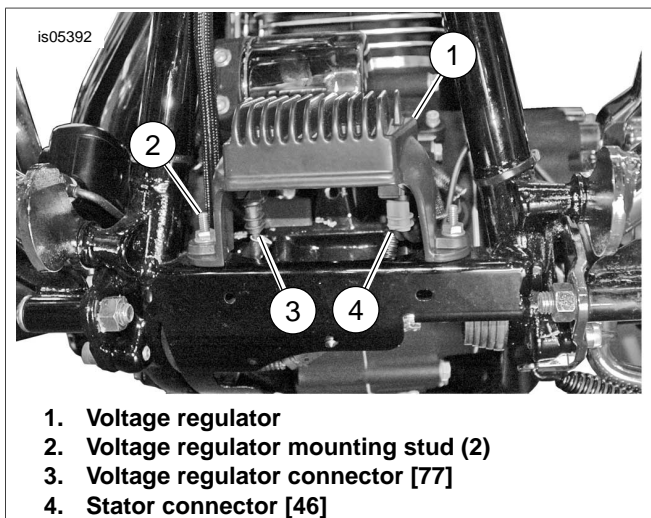
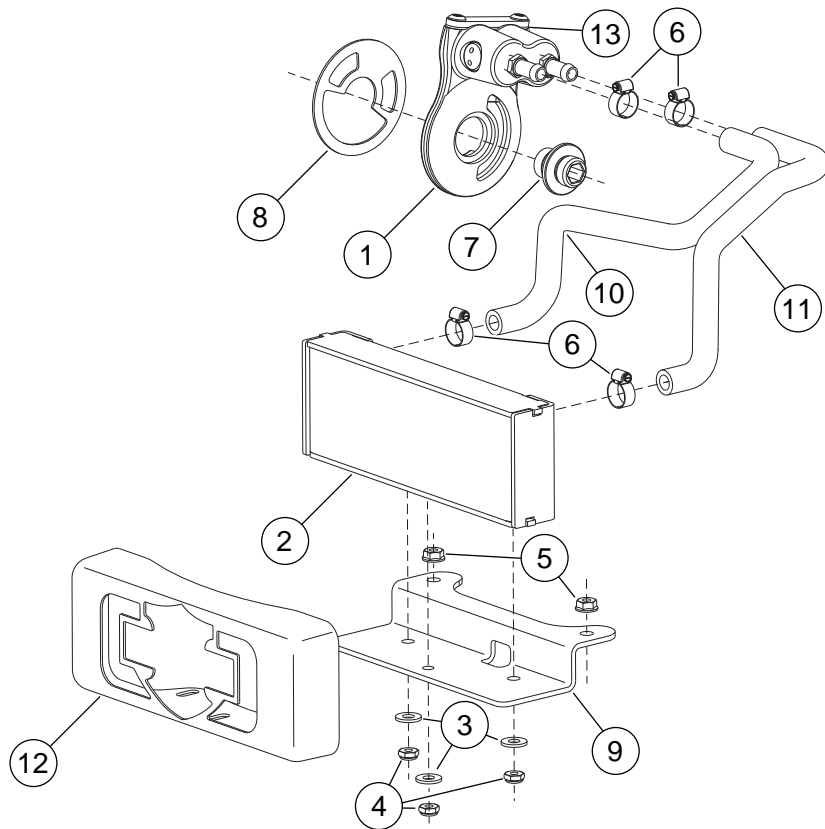

Figure 3. Voltage Regulator and Connectors
Figure 4. Service Parts for Touring Oil Cooler Kit with Chrome Oil Cooler Cover
See Figure 4 and Table 1.
- See Figure 3. Release locking latches from connectors and disconnect the stator connector (4) and voltage regulator connector (3) from the voltage regulator (1).
- Lift voltage regulator (1) to remove it from mounting studs (2).
- See Figure 4. Install the oil cooler cover (12) over the oil cooler (2) studs, then install the mounting bracket (9) over the studs. Secure the bracket and cover to the oil cooler with the three washers (3) and three locknuts (4). Tighten the nuts to 96-120 **in-lb** (10.8-13.5 Nm).
- Install the oil cooler mounting bracket onto the regulator mounting studs. Place the wire mounting bracket on top of the oil cooler mounting bracket, then install the voltage regulator on the studs over the oil cooler bracket. Secure the regulator using two flange nuts (Item 5, Figure 4), but do not tighten at this time.
- See Figure 3. Connect stator connector (4) and voltage regulator connector (3) to the voltage regulator (1). Secure connectors with latches.
- See Figure 4. Slide two clamps onto the left hose (11) and the right hose (10) and connect the hoses onto the oil cooler (2) and oil cooler adapter (1).
- Fasten hoses to oil filter adapter and oil cooler with worm drive clamps (6). Tighten clamps to 8.0 **in-lbs** (0.9 Nm).